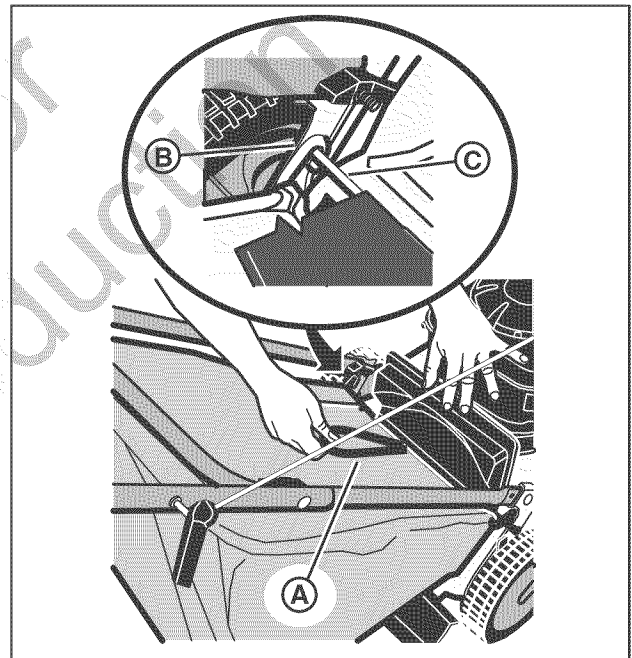

Figure 9: Mounting the grass bag
2. Holding the grass bag by the handle (A, Figure 9), mount the hooks (B) on either end of the grass bag frame assembly onto the rear door pivot rod (C). Lower the grass bag against the rear of the mower. Lower the rear door.